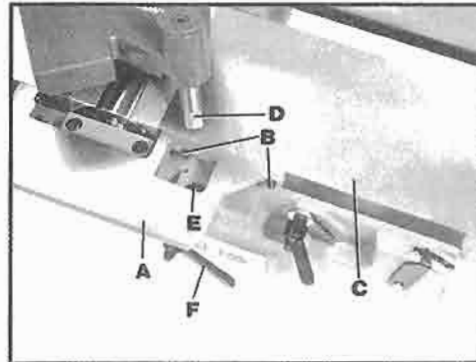

Fig. 8
Assemble the rabbeting ledge (A) Fig. 8, to the side of the infeed table using the two 3/4" long socket head cap screws (B). NOTE: The rabbeting ledge must level with the top surface of the infeed table (C).
To assemble the cutterhead guard, insert post (D) Fig. 8, into hole (E) and tighten locking lever (F) against flat on post.